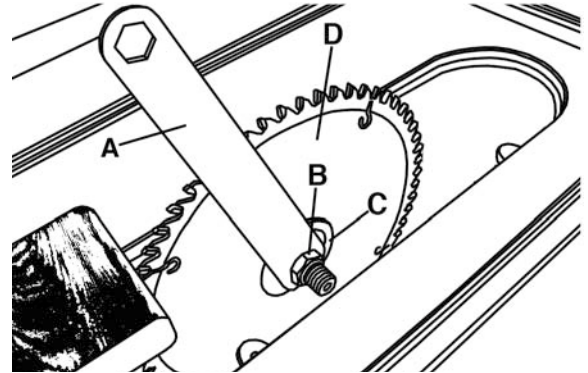

FIGURE 11
3. Jam a large piece of scrap wood into the blade teeth at the front. See Fig.11.
4. Place the blade wrench (A) Fig.11 over the arbor nut (B) and pull the wrench toward you (counterclockwise to loosen). Remove the arbor nut, flange (C) and saw blade (D).